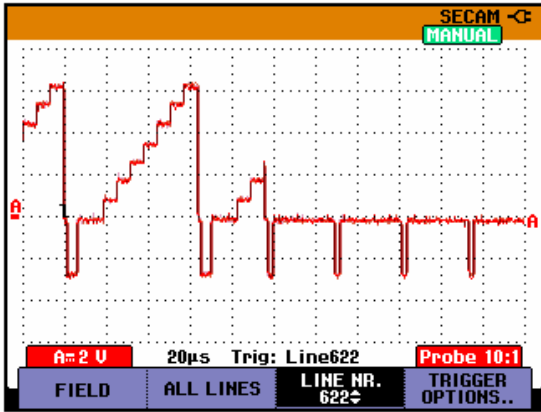

Figure 4-9. Trace for PAL/SECAM line 622
- ⇒ 622 for PAL or SECAM, see Figure 4-9